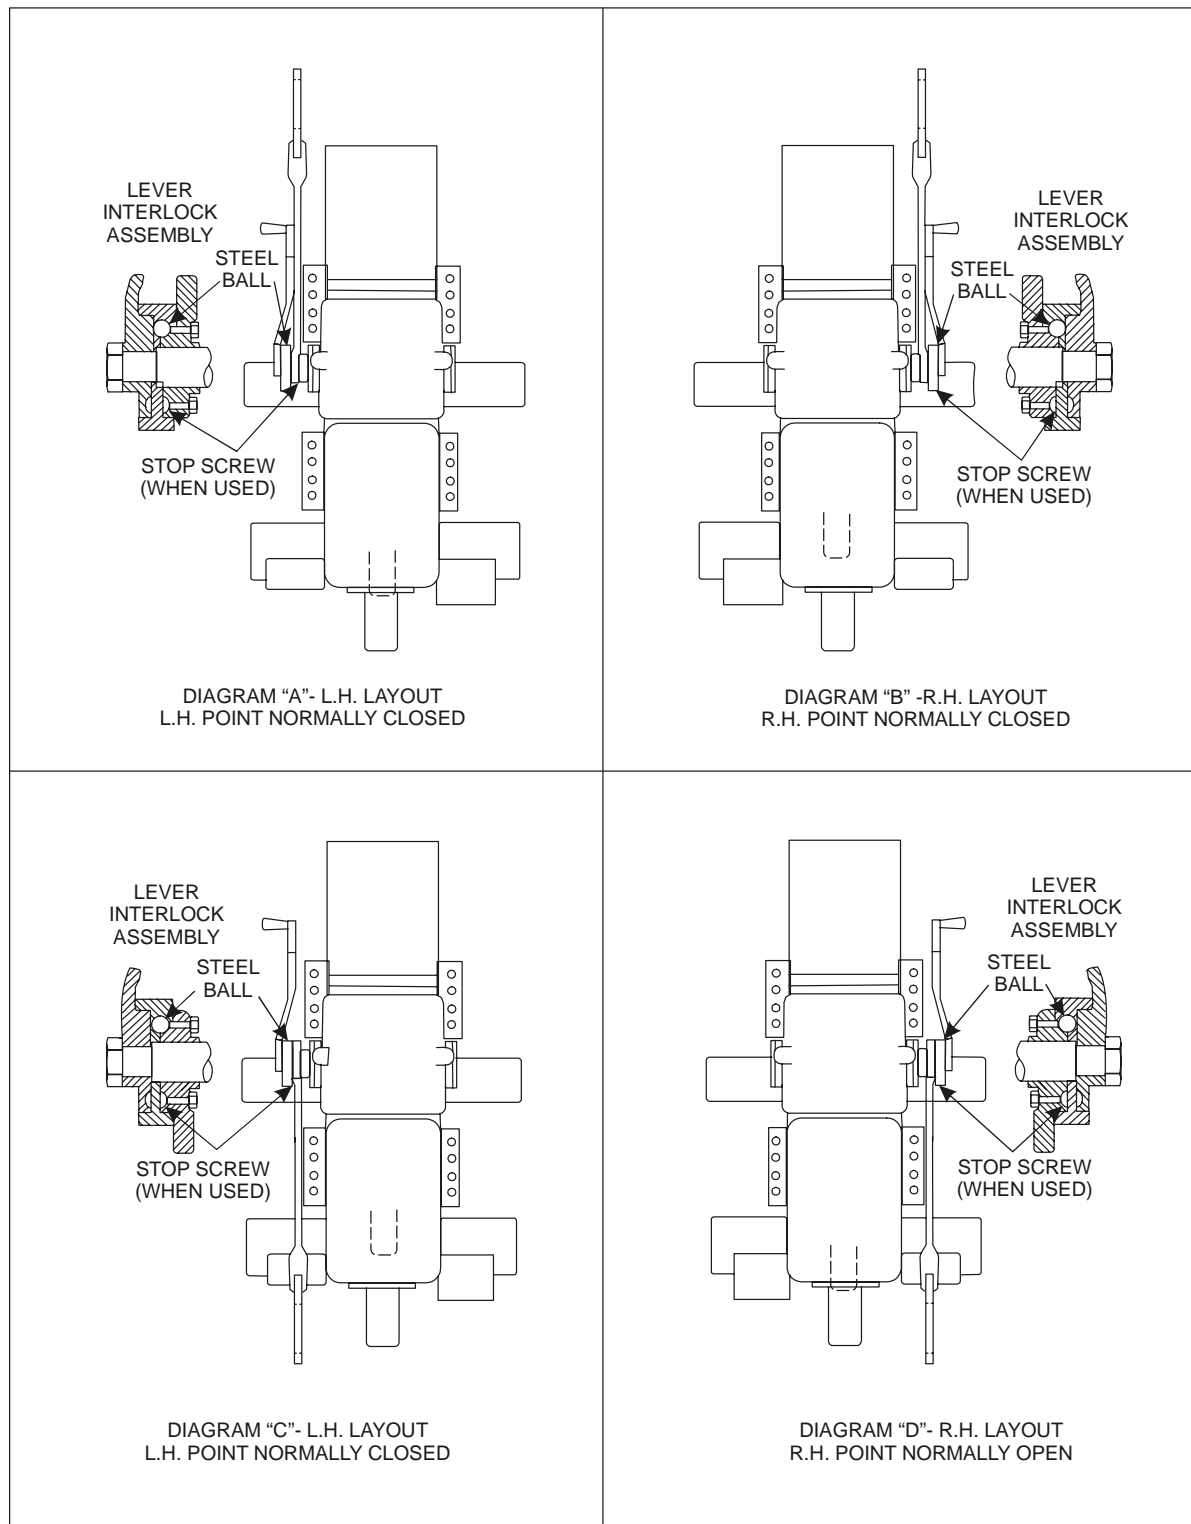

Figure 4-7. Standard Lever Interlock Assemblies for M-23 Switch Machine
5. With the hand-throw lever vertical, and the bevel gear firmly seated against the lever shaft, tighten the set screw (F1) in the hand-throw bevel gear (F).
6. Secure the lever shaft bearing (M) to the gearbox with the two 1/2-13 x 1-1/2" bolts (A4) and washers removed in Step 7 of Section 4.8.1.1.
7. In order that the motor position of the selector lever will be toward the motor end of the machine (as indicated for standard assemblies in Diagrams A, B, C, or D Figure 4-7), the selector lever and lever interlock must be reassembled 180° from the original position on the shaft, as follows:
- a. Remove the 7/8" hex nut, lock washer, and flat washers from the end of the selector lever shaft and slide the selector lever and lever support (K) from the shaft. Be careful not to lose the steel ball in the lever support.
If the stop screw is used in the hub instead of the hand-throw lever, it will be necessary to also remove this lever and interchange the stop screw and cap screw (refer to Figure 4-7). Replace the hand-throw lever and fasten it in place with the clamping bolt.